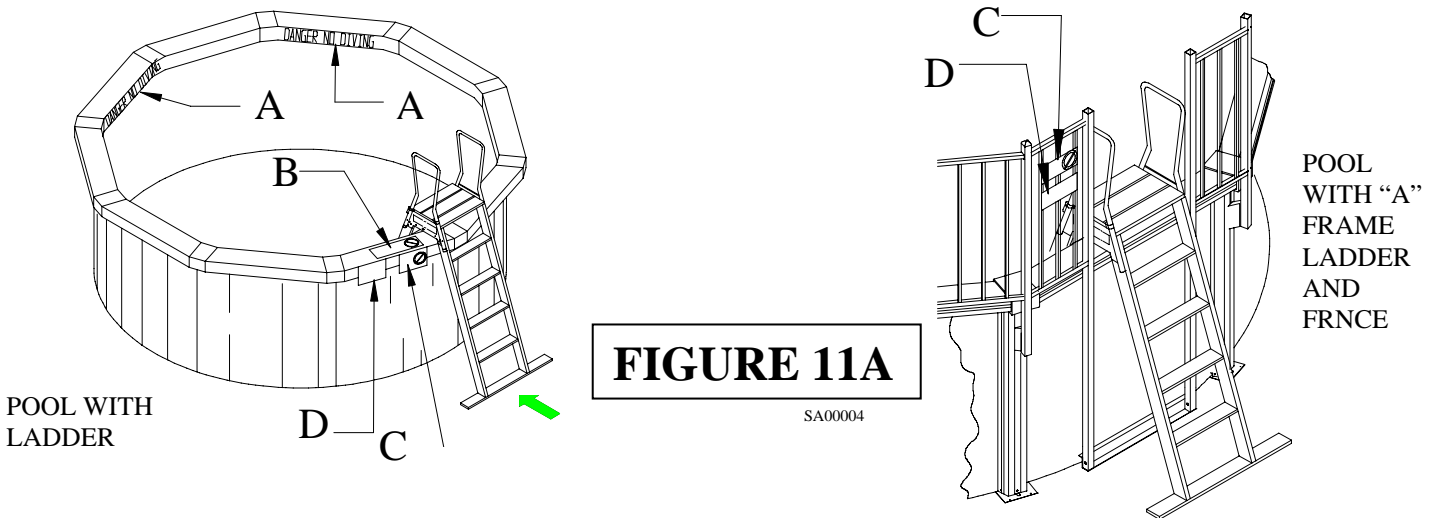

FIGURE 11A
Step 15: Attach the remaining safety warning signs as described and shown in Figures 11A and 11B. If installing a fence or deck refer to those manuals for proper placement of safety information.